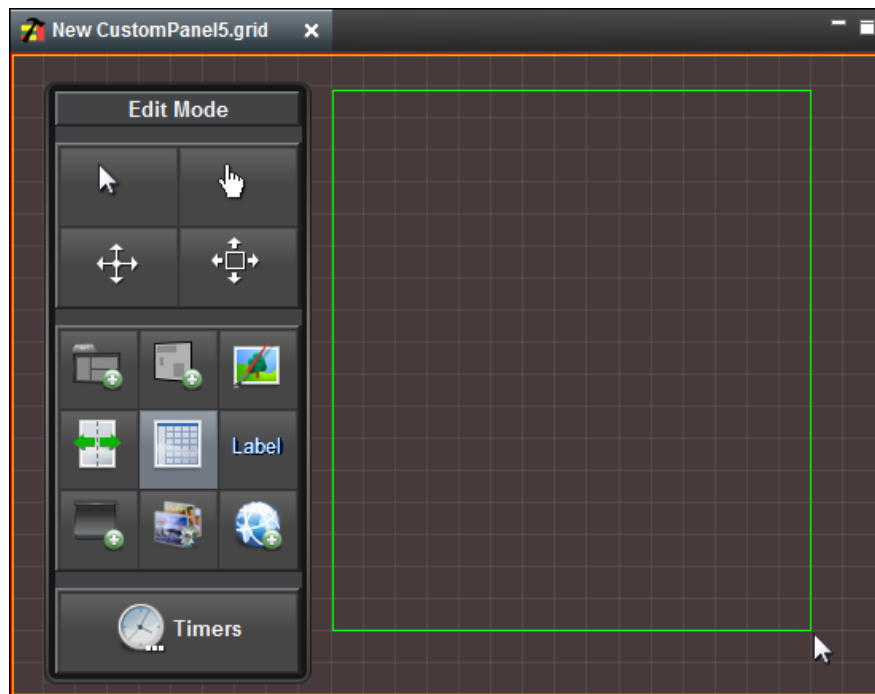

Figure 5.12 - Adding a Component (with **Insert Table** button selected, dragging to define table area)
3. On the **CustomPanel**, click and drag to specify the area of the new component (**Figure 5.12**).